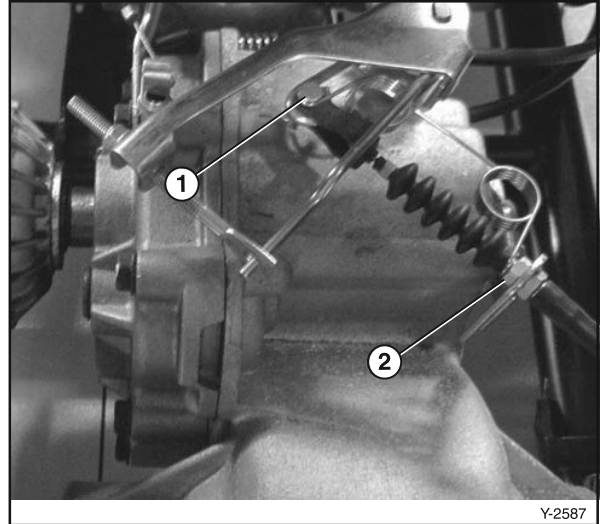

Figure 6-67
14. Remove the clevis pin (**Figure 6-67, (1)**) and disconnect the throttle cable from the speed limiter.
15. Loosen the jam nuts (**Figure 6-67, (2)**) and remove the throttle cable from the bracket.